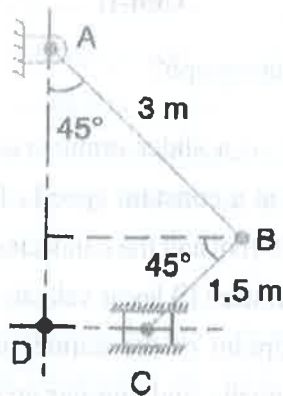

Figure 2
- (c) In the mechanism shown in Figure 2, the slider C is moving to the right with a velocity of 1 m/s and an acceleration of 2.5 m/s^2 . The dimensions of various links are $AB = 3$ m inclined at 45° with the vertical and $BC = 1.5$ m inclined at 45° with the horizontal. Determine : (i) the magnitude of vertical and horizontal component of the acceleration of the point B , and (ii) the angular acceleration of the links AB and BC . 14